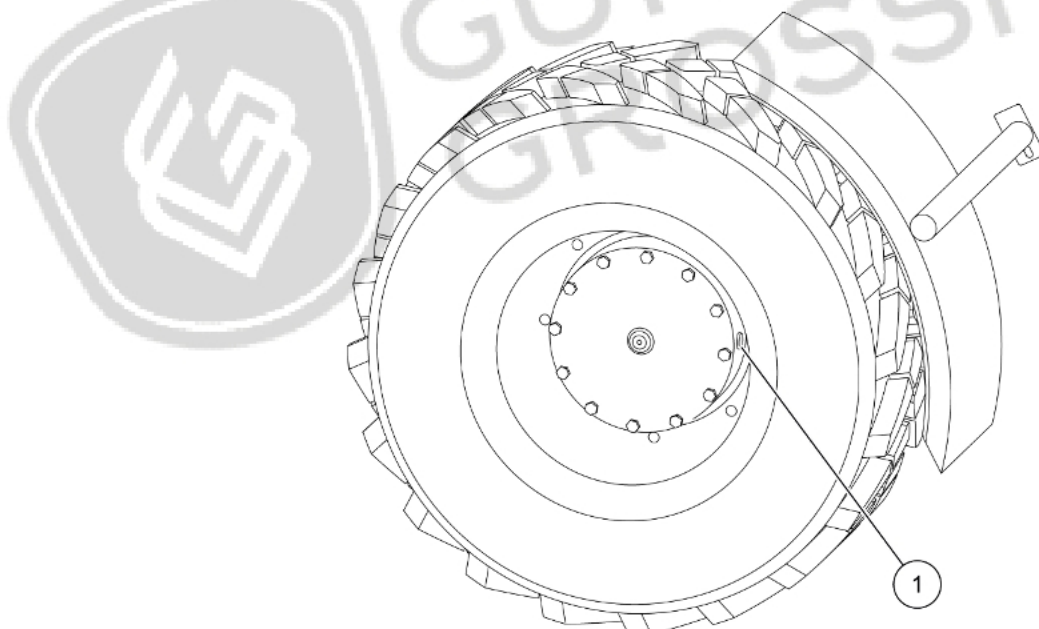

Figure 6-34 Oil port position when adding oil
(2) Oil plug/ port (3) Oil plug/ port
Step 4: Start the engine, remove the blocks, slowly move the loader to let the oil plug (1) at a horizontal position. Stop and pull up the parking brake handle, and place the blocks on the front and back of the tire, as shown in Figure 6-34: